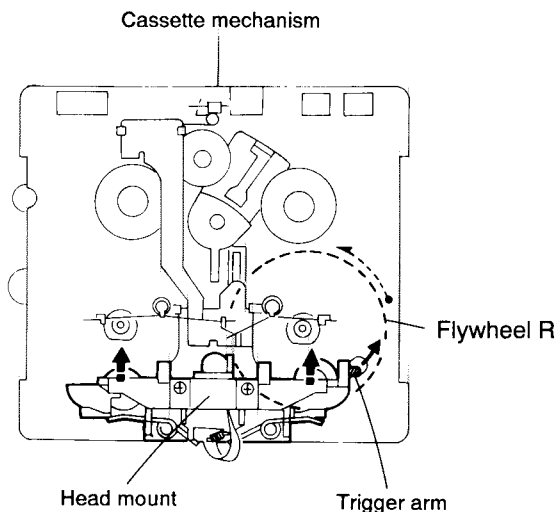

Fig.5-24 (Mechanism A side)
1. While shifting the trigger arms seen on the right side of the head mount in the arrow direction, turn the flywheel R in counterclockwise direction until the head mount has gone out with a click (See Fig. 5-24).